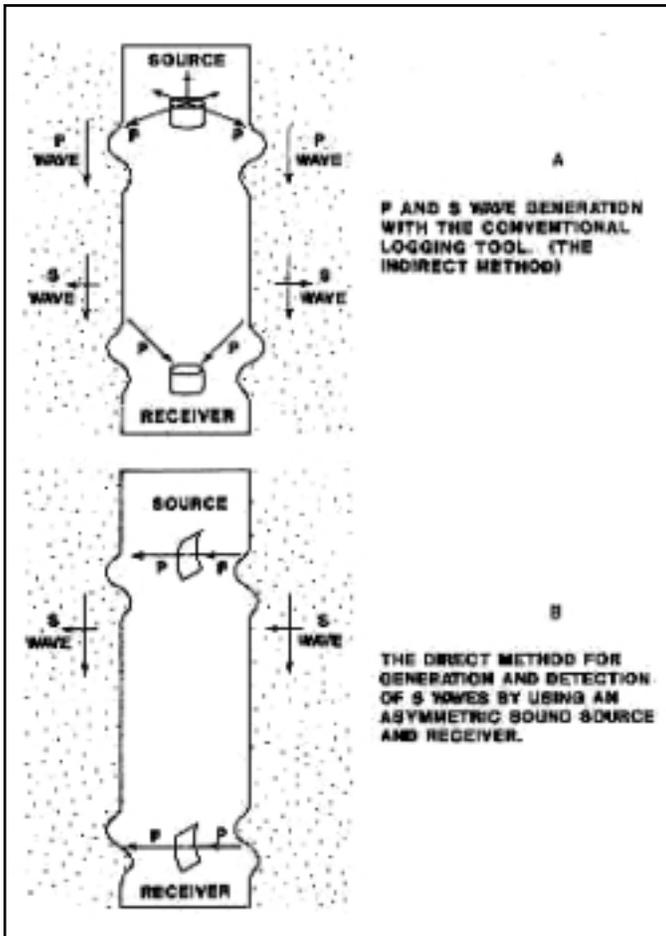

Figure 2: Shear wave propagation from monopole source (upper) and dipole source (lower) (from Zemanek et al, 1991)
2. Dipole sources and receivers are a newer invention. They emit energy along a single direction instead of radially. These have been called asymmetric or non-axisymmetric sources. They can generate a compressional wave in the formation, not usually detected except in large boreholes or very slow formations. They generate a strong shear wave in both slow and fast formations. This wave is called a flexural or bender wave and travels on the borehole wall (Figure 2).